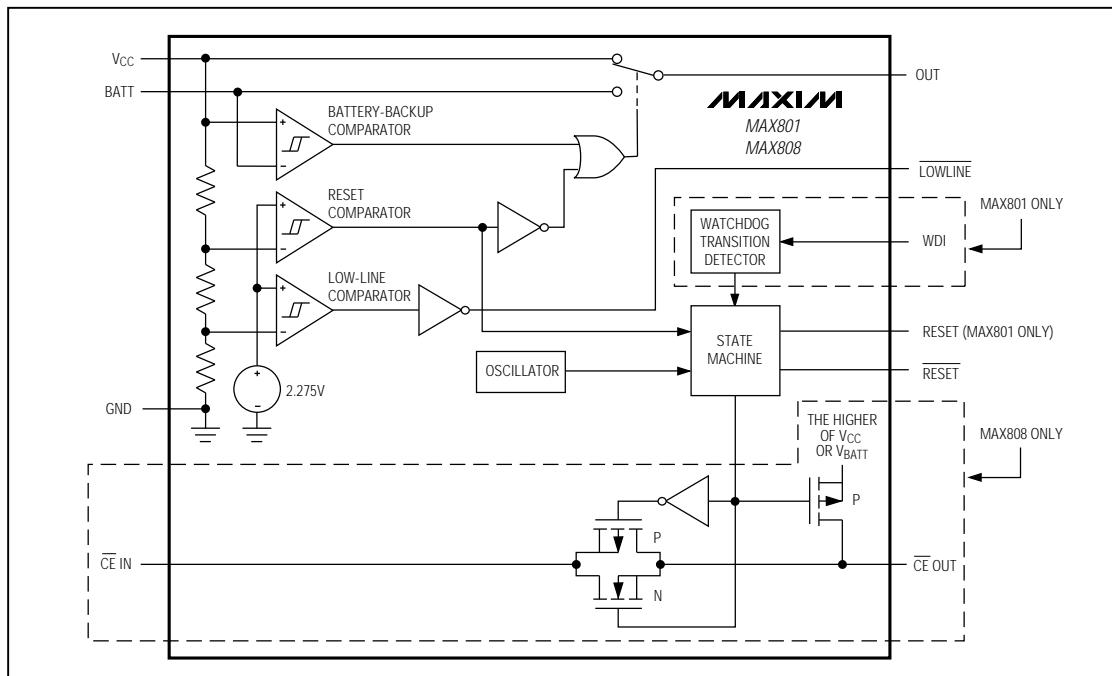

Figure 1. Functional Diagram
The MAX801/MAX808 microprocessor (µP) supervisory circuits provide power-supply monitoring and backup-battery switchover in µP systems. The MAX801 also provides program-execution watchdog functions (Figure 1). Use of BiCMOS technology results in an improved, 1.5% reset-threshold precision while keeping supply currents typically at 68µA (48µA for the MAX808). The MAX801/MAX808 are intended for battery-powered applications that require high reset-threshold precision, allowing a wide power-supply operating range while preventing the system from operating below its specified voltage range.
The MAX808 provides internal gating of chip-enable (CE) signals to prevent erroneous data from corrupting CMOS RAM in the event of a power failure. During normal operation, the CE gate is enabled and passes all CE transitions. When reset is asserted, this path becomes disabled, preventing erroneous data from corrupting the CMOS RAM. The MAX808 uses a series transmission gate from the chip-enable input (\overline{CE} IN) to the chip-enable output (\overline{CE} OUT) (Figure 1). The 8ns max chip-enable propagation from \overline{CE} IN to \overline{CE} OUT enables the MAX808 to be used with most µPs.